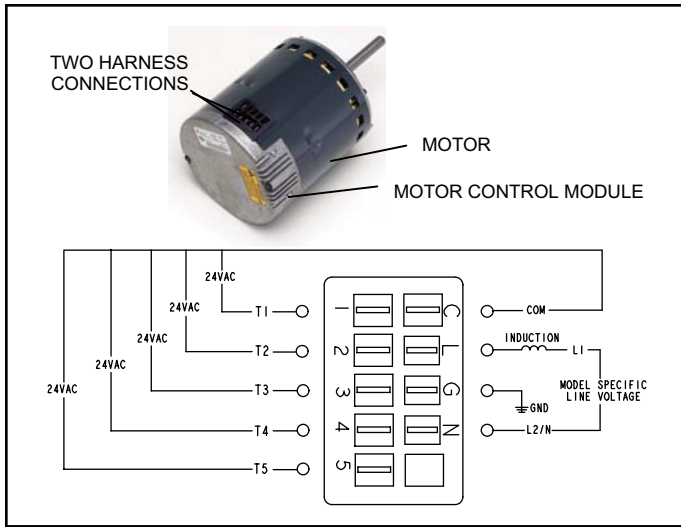

Figure 13. Unplug the Two Harness Connection
3. Unplug the two harnesses from the motor control module. See Figure 13.